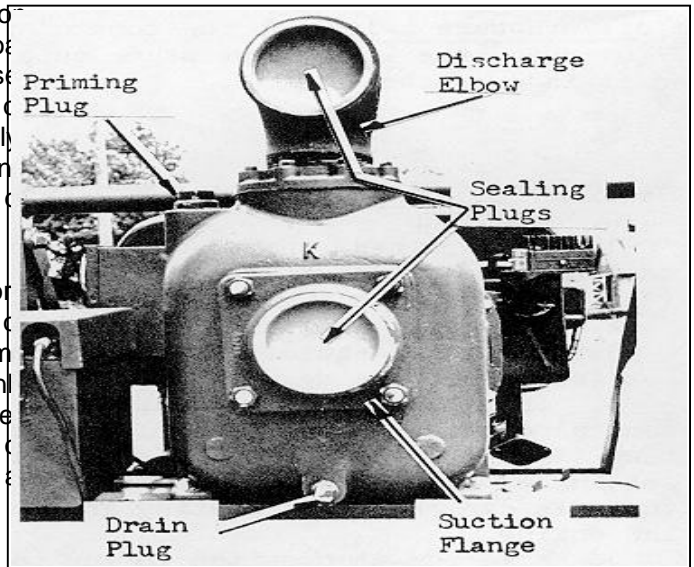

FIGURE 2-1. PRIMING & ATTACHMENT OF HOSE
A. **SUCTION LINE** - **CAUTION:** Attach a suitable strainer before operating pump. The pump inlet connection is a 4 in. NPT. Use 4 in. reinforced noncollapsible suction hose of rigid plastic, aluminum or steel pipe. Clean all threads and coat them with a pipe Joint compound or water-proof grease. Plastic sealing plugs are used in the suction and discharge ports for shipping purposes, and may be saved for future use. Remove sealing plugs and insert suction line into suction flange (fig. 2-1). All fittings and joints must be fully tightened and air tight. If suction line is not completely air-tight, the pump will not properly complete the priming cycle and deliver water. Install suction strainer at lower end of suction line to prevent debris and abrasive liquids from entering pump. Provide a settling bed to prevent sand from entering pump during surf operations. Slope line downward into water course without any kinks or humps to trap air. Submerge lower end of suction line in water source being careful to avoid any obstruction of the suction line or vortex because of insufficient submergence.
B. **DISCHARGE LINE** - The discharge connection (both the flange and elbow) is 4" NPT. Clean all threads & coat them with a pipe Joint compound or water-proof grease. Remove sealing plug and insert the discharge line (4" hose or pipe) into the discharge elbow (Fig. 2-1) and tighten securely. Avoid kinks so as to allow free upward escape of air being expelled during the priming cycle. Do not restrict any point of the discharge line while the pump is in the priming cycle.
2-8. **PRIMING OF PUMP** - Priming must be done before starting the engine, or the mechanical seal will be damaged or destroyed, preventing operation of the unit. Although the pump is generally referred to as a "self-priming" pump, it will only prime when the pump casing has a proper internal water level. To prime the pump, fill the casing with water after removal of the pipe plug atop the casing (Fig. 2-1). After the casing is at least 2/3 full replace the pipe plug and tighten completely.
- 1. Remove drain plug (Fig. 2-1) and drain pump casing, replacing drain plug after pump is drained.